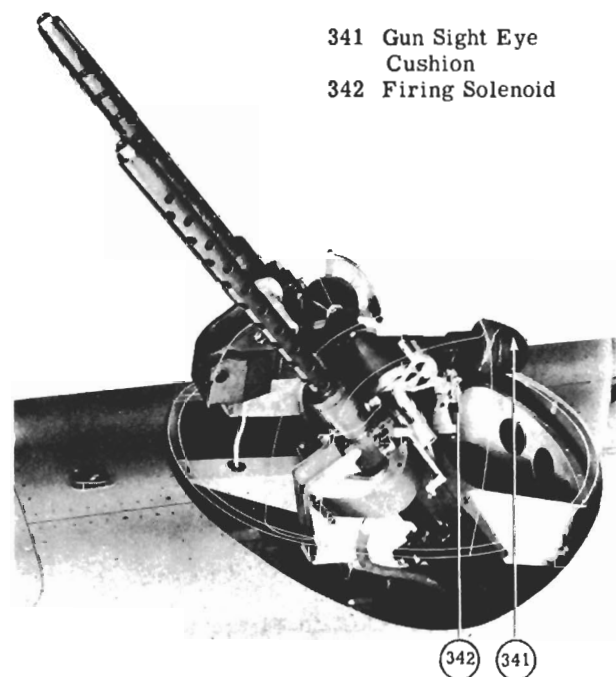

Figure 38 - Upper Gun Turret (Exterior View)
(2) Enter turret by pushing the riding seat to one side, and extend foot rests. (Do not step on the azimuth motor, compensator or brush box.)
(3) Adjust foot rests and lock in place with the hand screw located at aft side of support attaching bracket. Adjust seat by sliding bracket on the center column.
(4) To charge the guns or remove faulty cartridge, depress gun charger button until chargers have moved gun bolts to rear position. Releasing the switch charges guns.
(5) Rotate the sight cushion (figure 38) for individual focus.